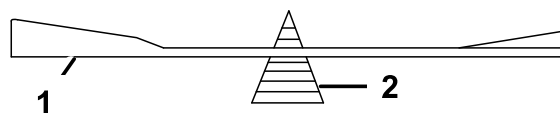

Figure 94
2. Check the balance of the blade by putting it on a blade balancer (Figure 94).